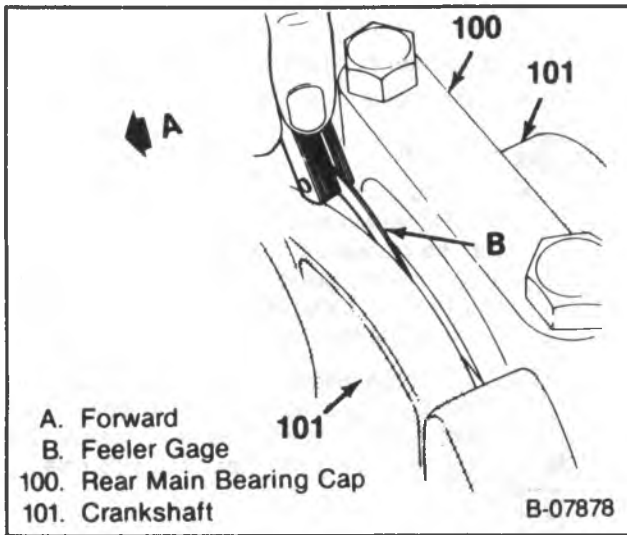

Figure 37 — Measuring Crankshaft End Play
- With the crankshaft forced forward, measure at the front end of the rear main bearing with a feeler gage (figure 37). The proper clearance is 0.05-0.15 mm (0.002-0.006-inch).